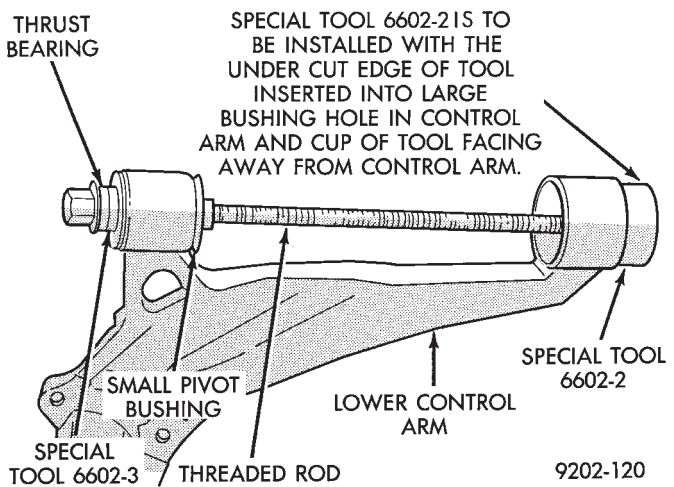

Fig. 6 Tool Assembled For Bushing Removal
(3) Install the tools assembled in step 2 above through small lower control arm bushing and hole in lower control arm where large bushing was removed from (Fig. 6). Assemble the Cup, Special Tool 6602-2 thrust bearing, washer and long nut onto the threaded rod of Special Tool 6602. (Fig. 6). Cup, Special Tool 6602-2 is to be installed on threaded rod with cup facing out and undercut in large bushing hole of lower control arm (Fig. 6).
(4) Hold the threaded rod stationary and turn the long nut until the small pivot bushing is pulled out of the lower control arm.